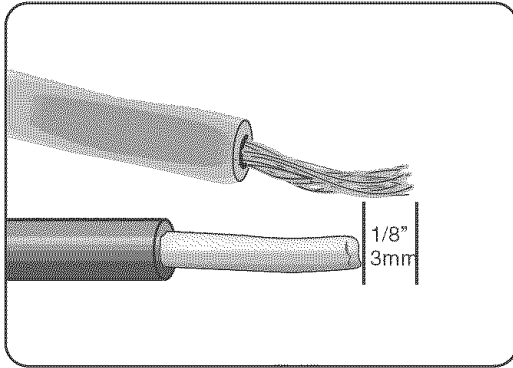

Figure 30
- Extend the dishwasher's stranded wires 1/8" (3mm) beyond the power supply cable's solid wires, as shown in **Figure 30**.